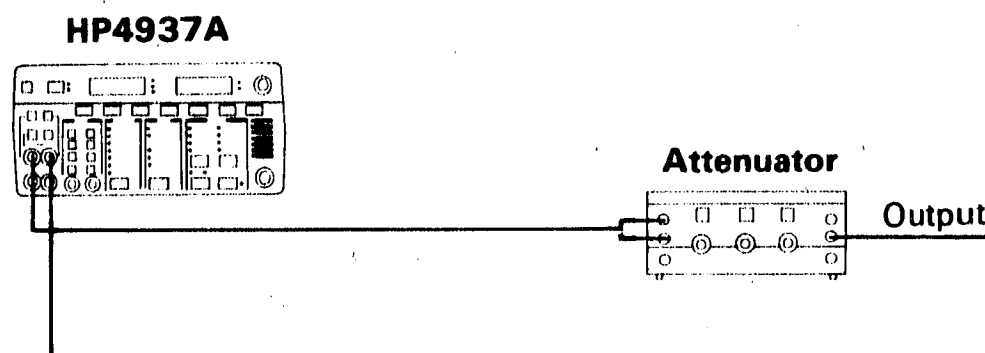

Figure 4-10. 4-Wire Return Loss Test
1. Connect equipment as shown in figure 4-10.